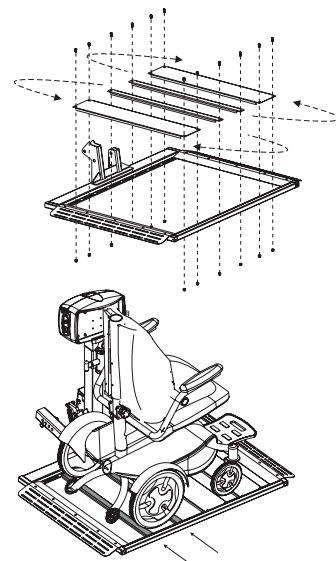

Figure 6-9
2. Position the chair onto the platform. Verify that the chair is secure and does not move in any direction once positioned between the platform skins and the cradles. **See Figure 6-9.**